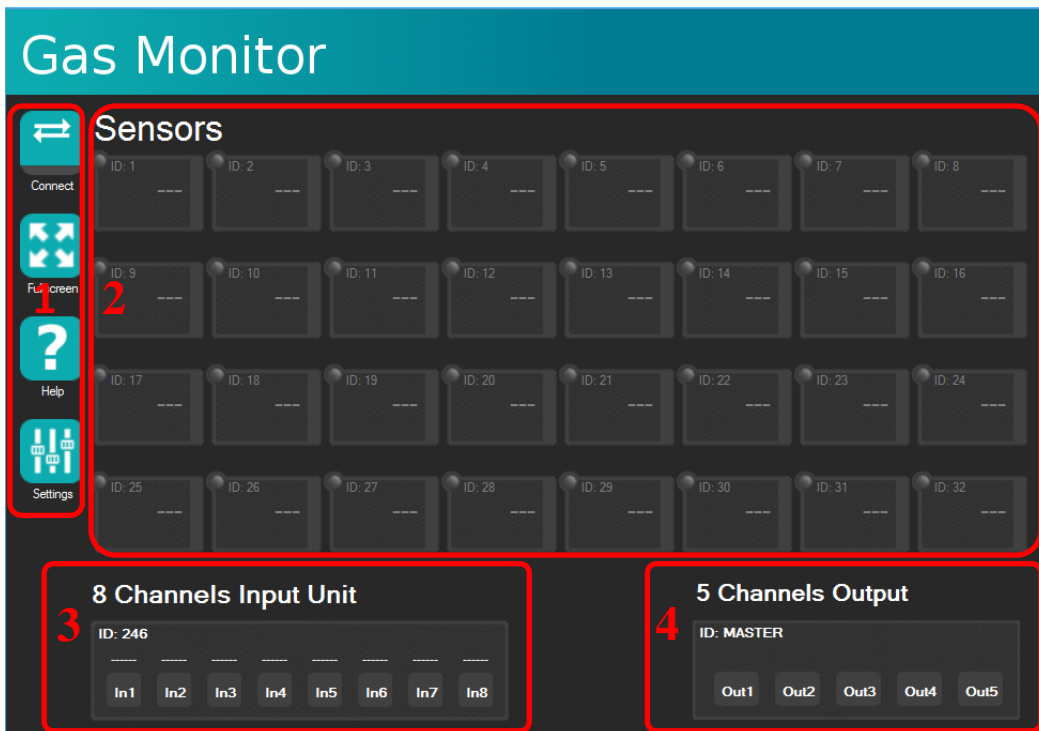

Figure 5
1. The graphical interface of the software is presented in Figure 5